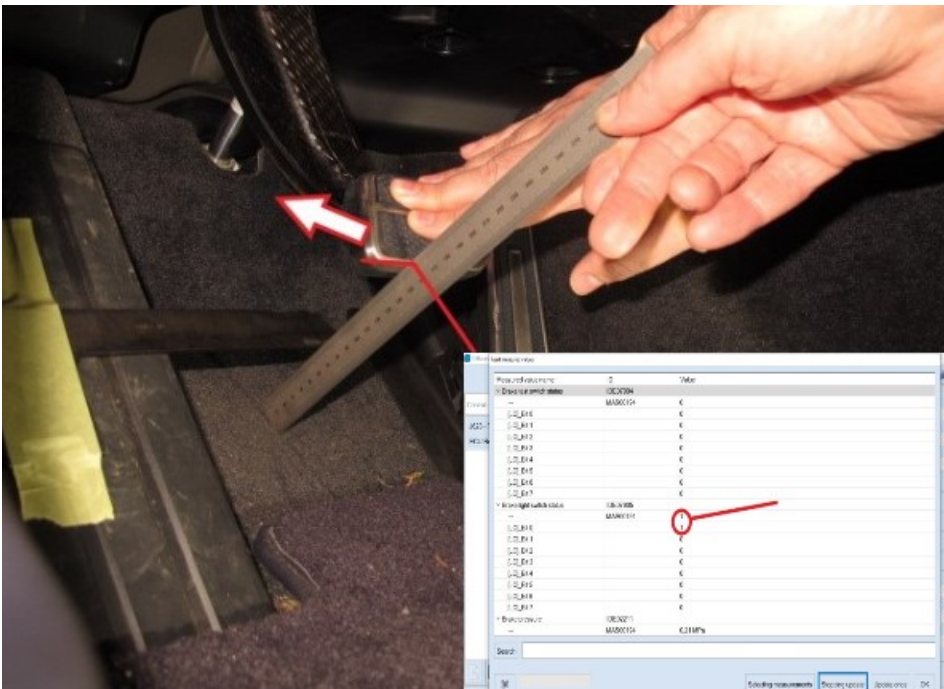

Figure 5
6) Referring to Figure 5 - Ensure the brake pedal is in its neutral position (not pressed)